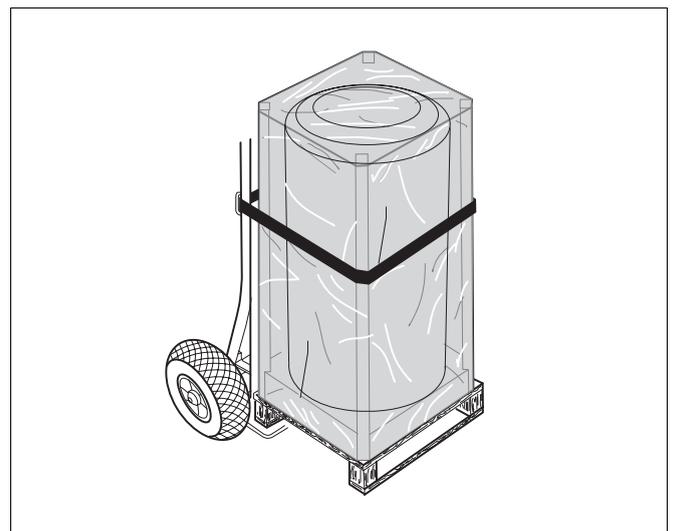

Fig. 3 Moving DHW tank with hand truck (general layout)
- Position the hand truck (Fig. 3, **Item. 1**) at the back of the packed DHW tank (Fig. 3, **Item. 2**).